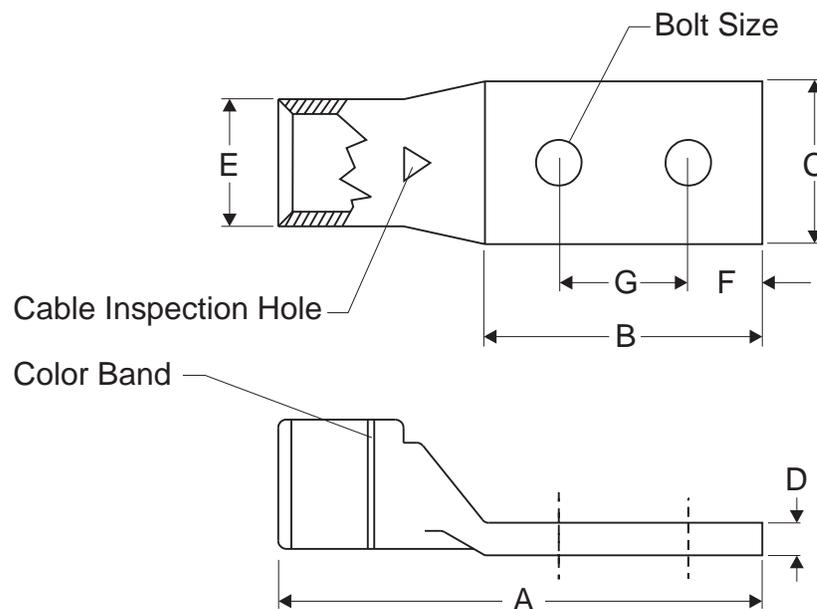
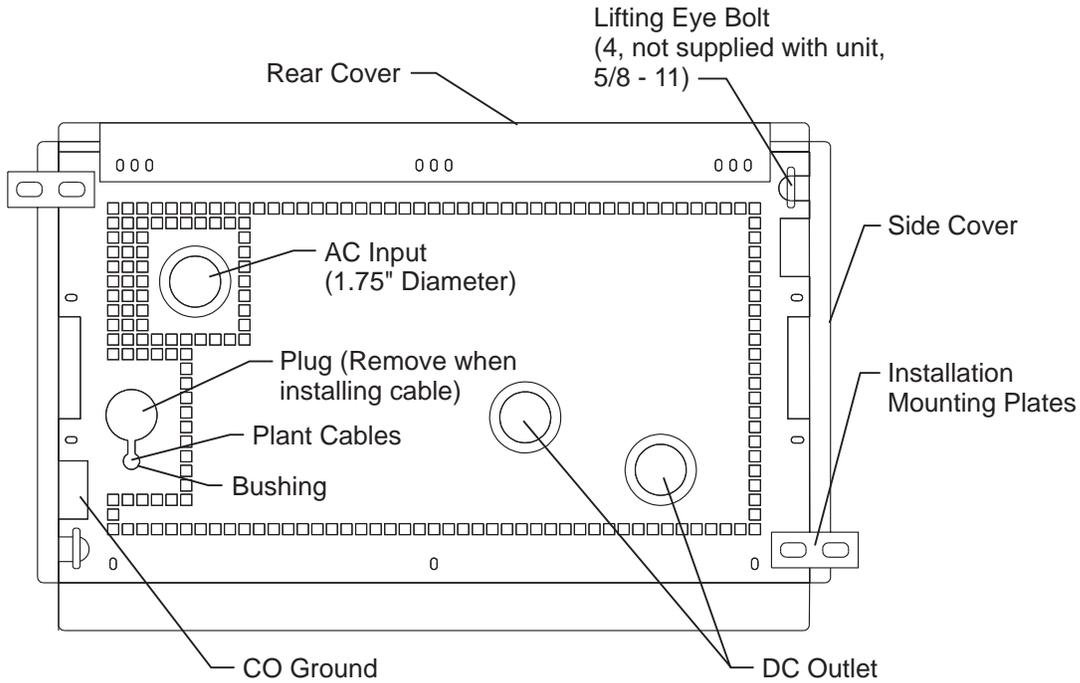

Figure 5-1: Sizing Equivalent Lugs
Figure 5-2: Rectifier Top View
- (3) List 3 WP91412 L2 for 6-gauge wire
- (See Figure 5-1 and Table 5-A for sizing equivalent lugs.)
- (1) List 1 or 2 WP91412 L108 for 6-gauge wire
- (1) List 3 WP91412 L52 for 8-gauge wire
- (1) WP91412 L54 2-gauge AWG Class B
- (1) WP91412 L8 2-gauge AWG Flex
- (2) plates for side-to-side and back-to-back
- (See Figure 5-2.)
- (3) Spare alarm fuses
- (See Figure 5-2 for location.)
- Lifting eye bolts; (4) 5/8-11 threaded holes provided (lifting with all four is required)
See Figures 5-2 and 5-4.
Install supplemental rectifier grounding on top of rectifier (see Figure 5-2). The ground conductor is usually terminated on the central office ground bus. Torque to 65 in-lbs.